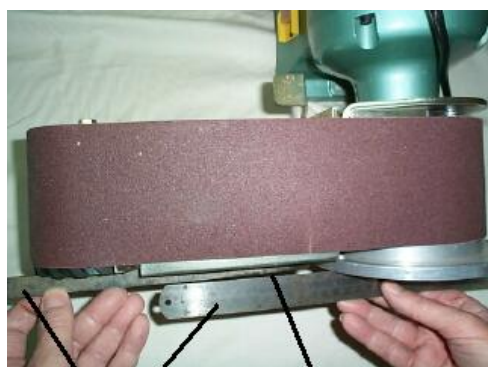

Figure 2
5. Check the alignment of the two straight edges as per figure 2. The two straight edges should run parallel.